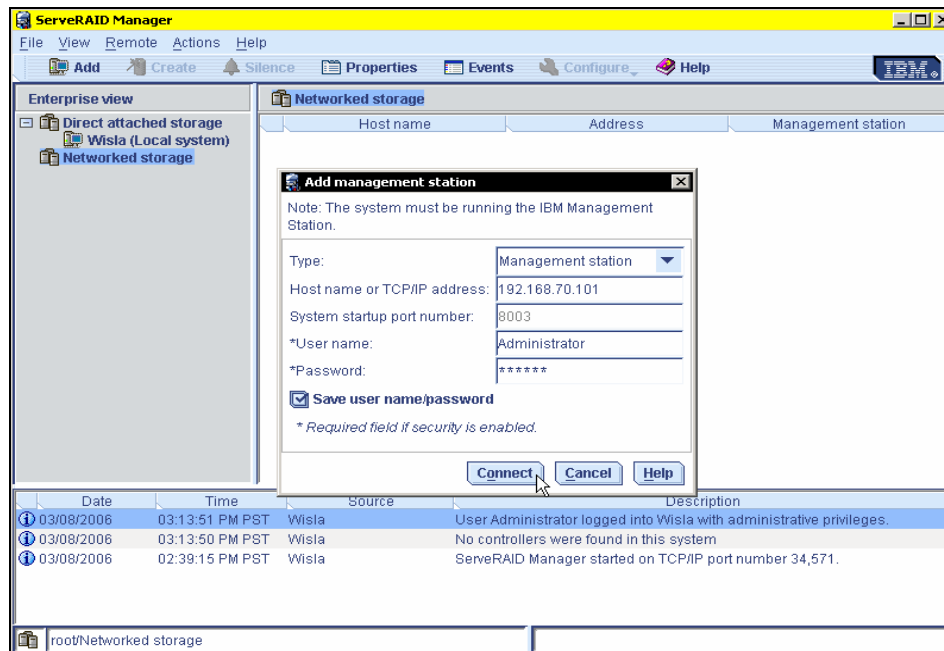

Figure 27 Management Station parameters
- b. In the pop-up box, enter the Host name or IP address, the username, and the password for the ServeRAID Management Station as shown in Figure 27. This is the username and password created while installing the Management Station software in “Management Station” on page 11. This username and password is used to log onto the Management Station.